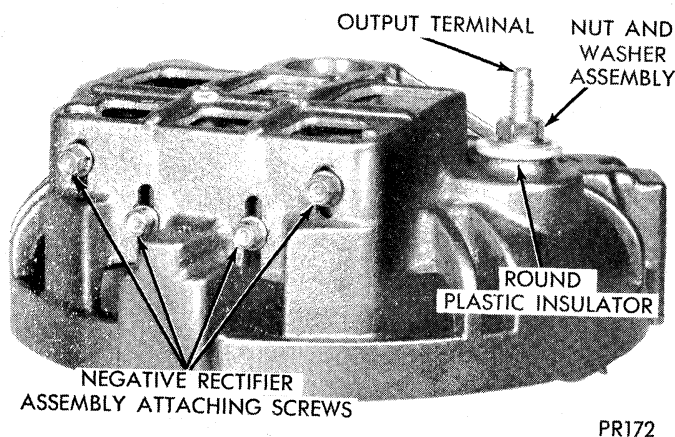

Fig. 36—Installing Battery Output Insulator and Nut
(9) Turn end shield over and install round plastic insulator over the battery terminal (flat side up). Install nut and washer assembly and tighten to 30 to 50 in.-lbs. torque, (Fig. 36).